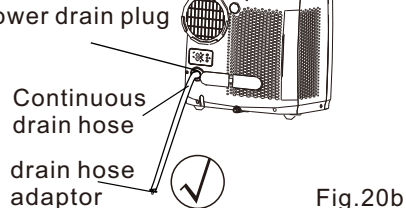

Fig.20b
- During heating pump mode, remove the lower drain plug from the back of the unit, install the drain connector(5/8" universal female mender) with 3/4" hose(locally purchased). For the models without drain connector, just attach the drain hose to the hole. Place the open end of the hose adaptor directly over the drain area in your basement floor. Please refer to Fig.20b.